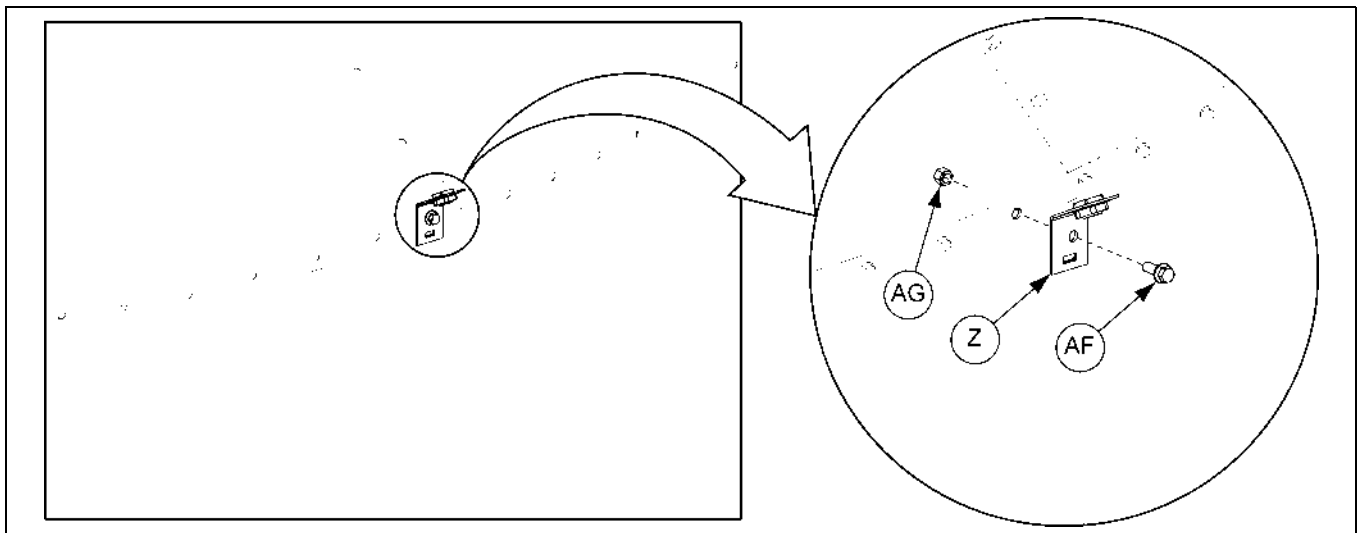

Figure 10L Installing the Roof Eave Bracket at Eave
2. Install the roof eave bracket (Z) at the eave of the roof using existing hardware (AF and AG). *(See Figure 10L.)*